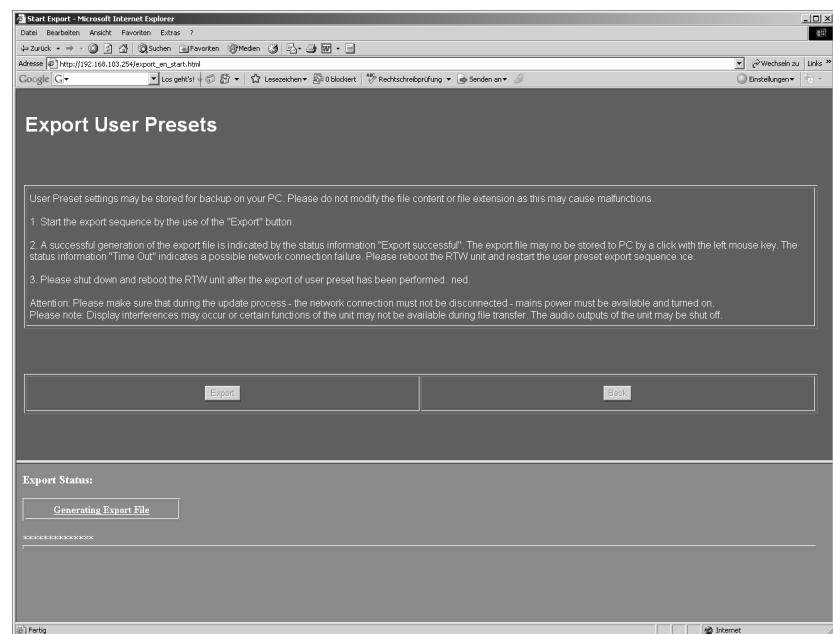

Fig. 8-14: The export is running
4. The export of the user setting data starts (see Fig. 8-14). "Generating Export File" is displayed, a starline is showing the progress of the export.